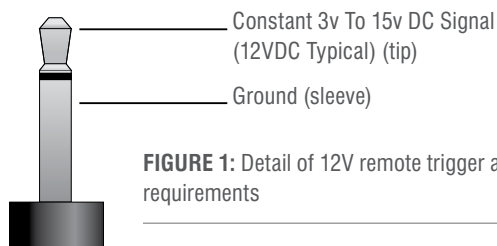

FIGURE 1: Detail of 12V remote trigger and mini-plug connector requirements
(3) 12V REMOTE TRIGGER: A 1/8" (3.5 mm) mini-plug connector is provided on the rear panel for remotely switching the amplifier between Operational and Standby modes. When connected to another component with the proper circuitry, the amplifier standby function can be turned ON and OFF remotely in a custom installation, theater, or automated system setup. (See FIGURE 1)